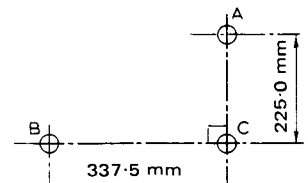

Fig. 1.87
14. Fig. 1.87 shows three holes which are to be drilled in a plate. The distance between holes A and B is needed for checking purposes. Calculate this distance.